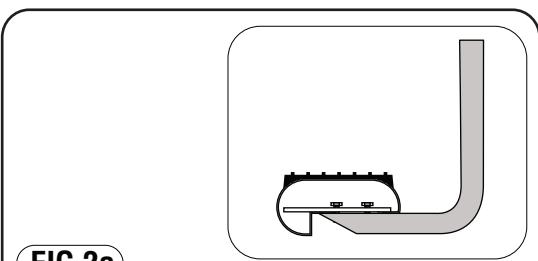

FIG 2a
1) Place clamp brackets on main bracket and turn 90 degrees to the main brackets. Place 5/16" hex bolt through top of bracket clamp in oblong hole to center hole in main bracket, placing 5/16" flange nut on bottom side (Fig 2a).